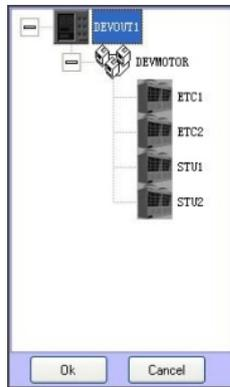

Fig.4-9
2. " a " is the selection column of outdoor unit. Press outdoor unit drop down box "  ", and the tree consisting of outdoor centralized controllers, sets and outdoor units will be prompted, as shown in <Fig 4-9>. After an outdoor unit is selected, press [OK] and the name of selected outdoor unit will be displayed in the most front.